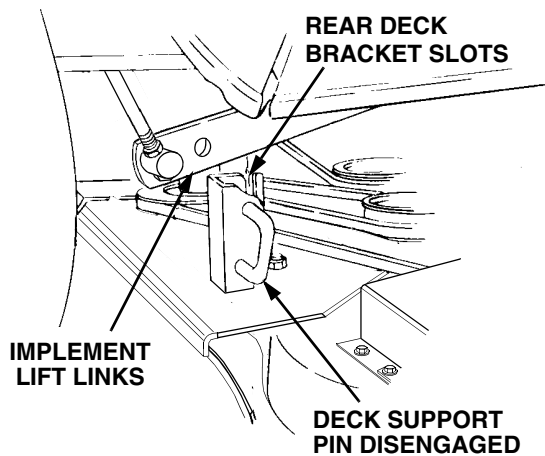

Figure 2-6
- If not already done, pull the deck support pins outward, turn downward and release so both spring-loaded pins are held in the disengaged position against the outer surface of the deck brackets (See Figure 2-6).